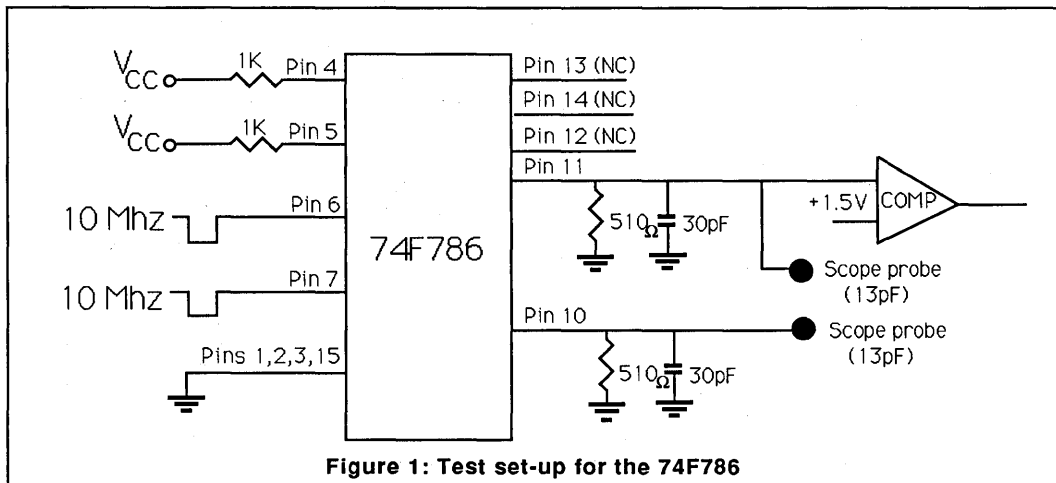

Figure 1: Test set-up for the 74F786
Through out the test period, the connections to some of the package pins was as shown in Figure 1. The 4 input pins (1, 2, 3 and 15) to the AND gate were all grounded. The output of the AND, pin 14, was left open. The output enable EN (pin 9) was grounded. The power ground pin (8) was grounded and the V_{CC} power pin (16) was connected to V_{CC} . The 4 input pins to the arbiter (4, 5, 6 and 7) were treated as a group with two of the pins always
The test conditions used for the selection process from the 19 packages is shown in Figure 1 with the results shown in Table 1. The values reported in Table 1 were calculated with t' (defined later) at 7.60 and 9.93ns. Note that the active inputs are pins 6 and 7 and the output tested is pin 11. The last column of this table is the period, after two requests, required to assure that the pack-